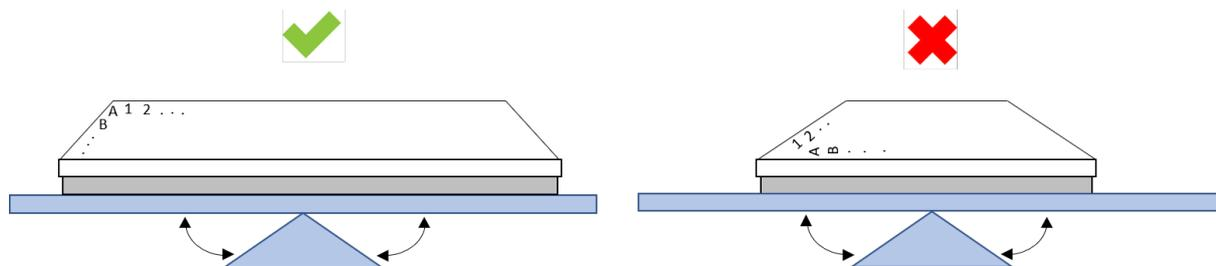

Figure 6: Place the OrganoPlate® on the OrganoFlow® in the correct orientation
11. Place the plate on the OrganoFlow® in a humidified incubator to start cell culture (see figure 6)